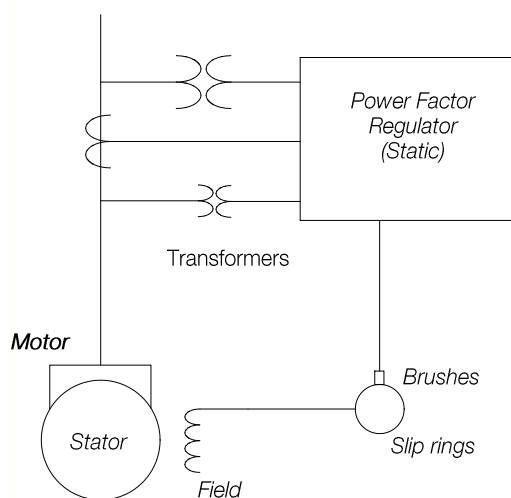

Figure 4.4: General connection diagram (brushless motor)
- Figure 4.4 shows the single line connection diagram of a synchronous motor with brushes.